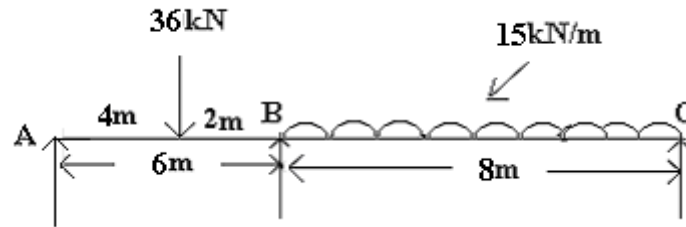

Figure 2:
5. Analyse the two-span continuous beam loaded as shown in Figure 2 by the slope deflection method, if the support B sinks by 10mm. Sketch the B.M.D. Take $E = 200 \text{ GN/m}^2$ and $I = 100 \times 10^{-6} \text{ m}^4$. [16]